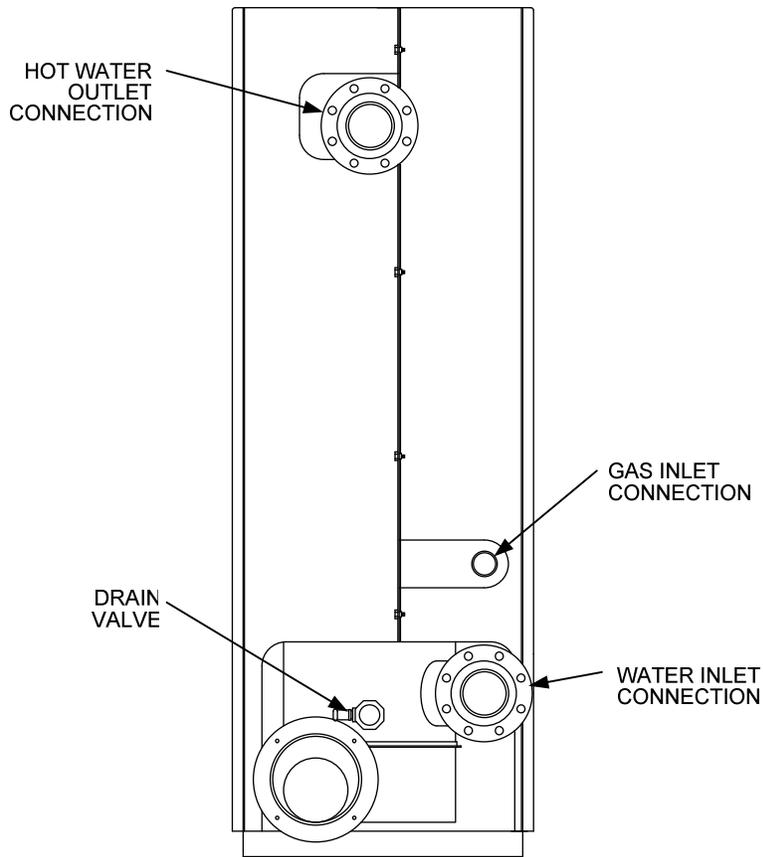

Figure 2. Benchmark 2.0LN (VFD Design) - Rear View
3. At the rear of the unit (Figure 2), slowly open the drain valve and drain the boiler water from heat exchanger.